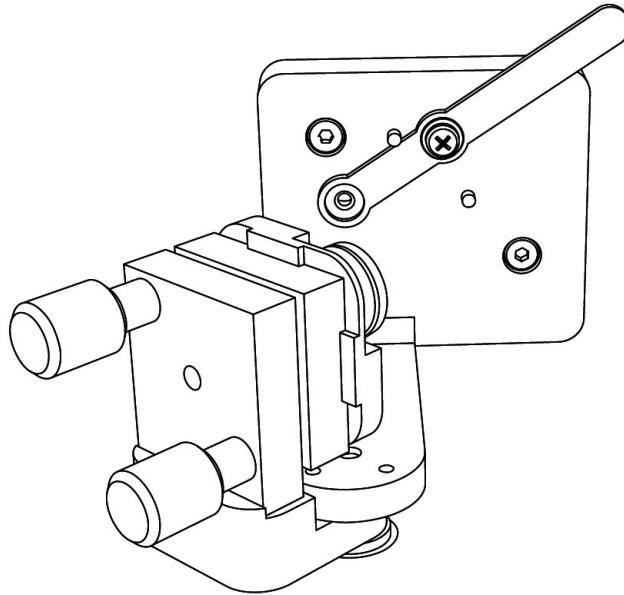

Figure 5.7.: Alignment aperture - alignment position
4. Flip alignment aperture in front of the input aperture into alignment position (see Figure 5.7).